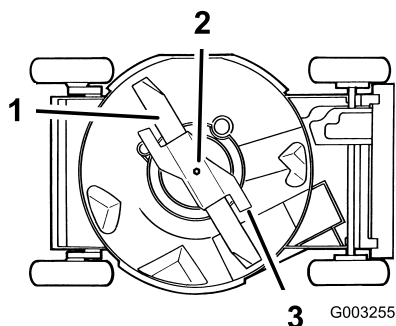

Figure 31
4. Tip the machine with the air filter up (Figure 31).
Grasp the end of the blade using a rag or a thickly padded glove. Remove the blade bolt, the lock washer, the accelerator, and the blade (Figure 31).